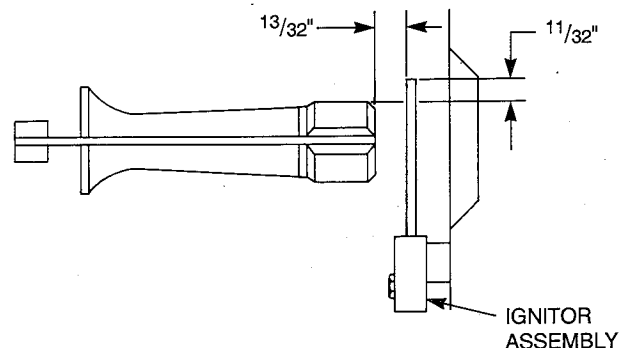

Fig. 4—Position of Burner and Ignitor (Side View)
8. Reinstall burners, from right to left, and burner bracket. Ensure that burner crossovers are aligned. See Fig. 4 and 5 for proper orientation of ignitor and burners. Ensure wiring is routed properly; see label on burner enclosure front regarding wiring.